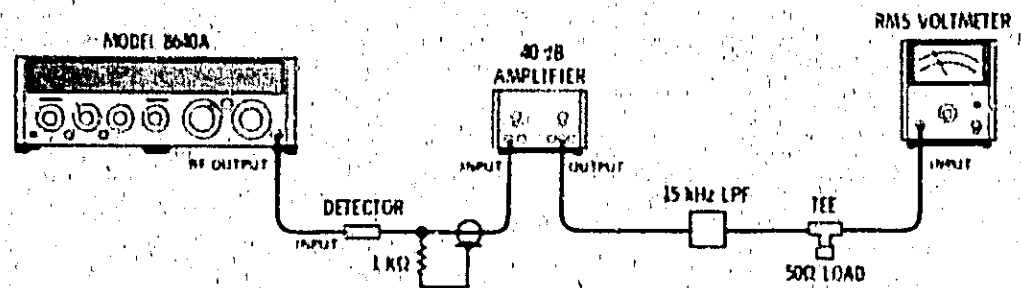

Figure 4-3. Residual AM Test Setup
1. Connect equipment as shown in Figure 4-3 (with the generator connected to the rms voltmeter through the detector, amplifier, 15 kHz LPF, and across the 50 ohm load). Set Signal Generator's controls as follows: